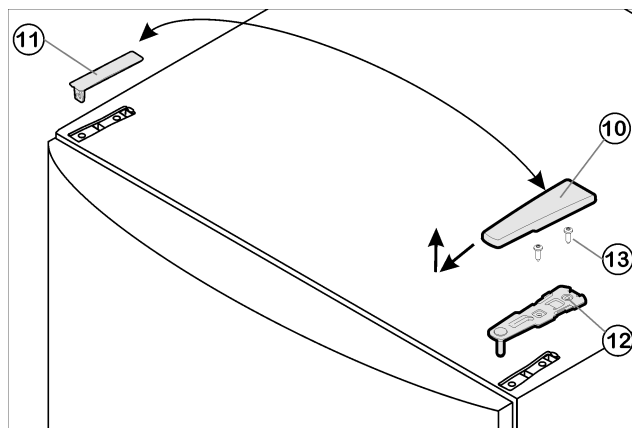

Fig. 4
- Pull off the cover Fig. 4 (10) forwards and upwards.
- Lift off the cover Fig. 4 (11).
- Unscrew the upper turn hinge Fig. 4 (12)(2x Torx® 25) Fig. 4 (13) and lift it off.
- ▶ Insert the upper turn hinge Fig. 4 (12) in the door on the new hinge side.
- ▶ Screw the upper turn hinge Fig. 4 (12) firmly into place (with 4 Nm) (2x Torx® 25) Fig. 4 (13). Possibly make preliminary holes with a bradawl or use a cordless screwdriver.
- ▶ Snap the cover Fig. 4 (10) and cover Fig. 4 (11) into place at the opposite side.